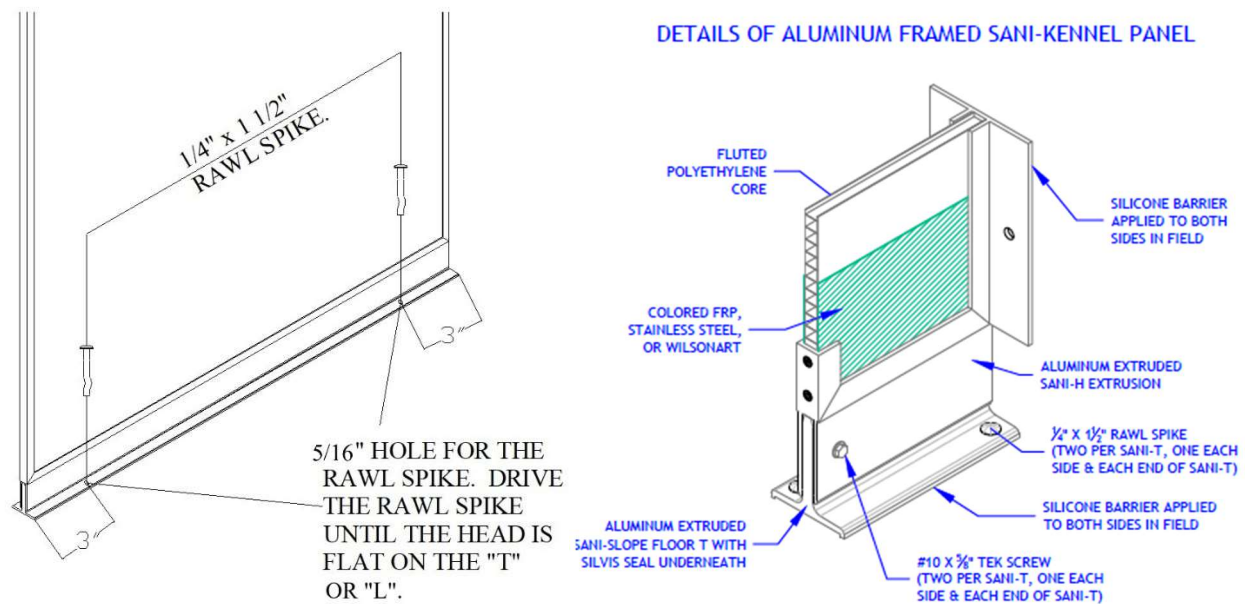

Figure 21
3. Repeat steps H-1 and H-3 for all hole locations shown in Figure 21.
2. Apply a thin bead of sealant provided along the seam created between the "Sanislope T" and the concrete as shown in Figure 21 above.